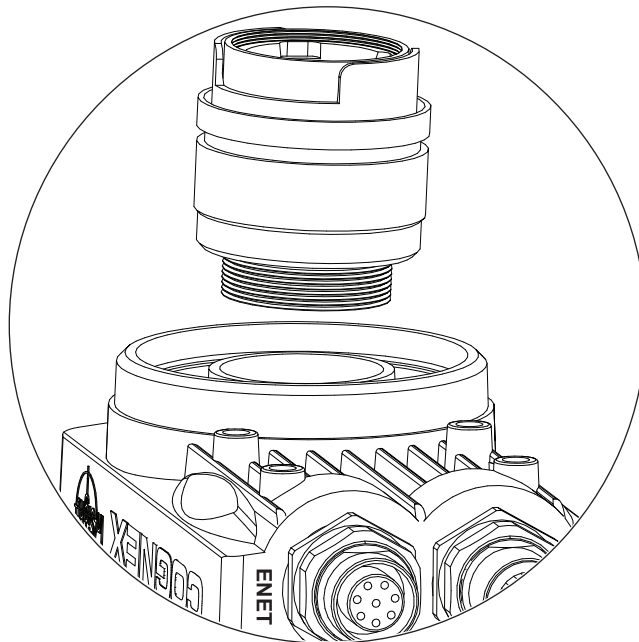

Figure 2-1: Install the Lens
1. After removing the protective lens cap, attach a C-Mount lens to the vision system (Figure 2-1).